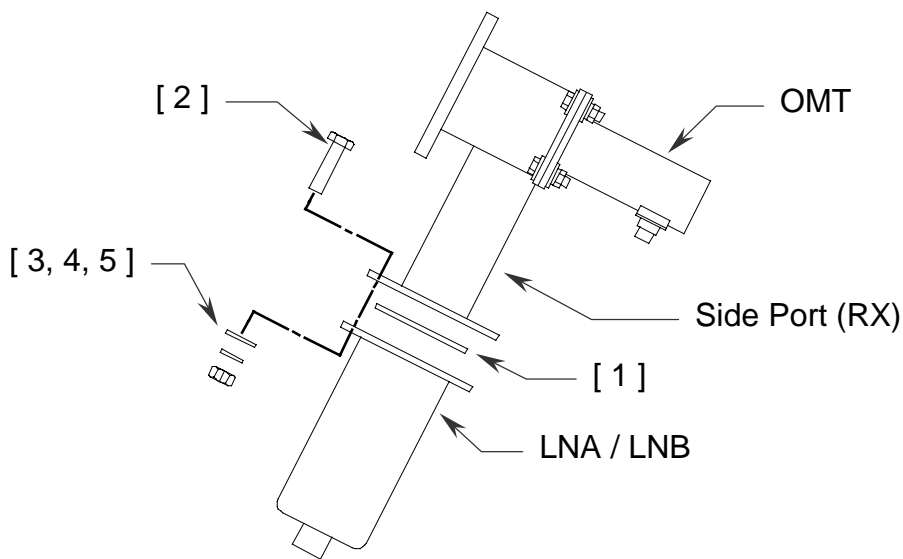

Figure 9
1. Apply silicone grease to gasket (item#1) and place gasket in groove in flange of LNA/LNB (customer supplied), as shown below in figure 9.
2. Attach LNA/LNB to side port (Rx) flange of OMT with (10) 1/4-20 x 1.00" bolts, (10) 1/4" flatwashers, (10) 1/4" lockwashers, and (10) 1/4-20 hex nuts (items 2,3,4,5).